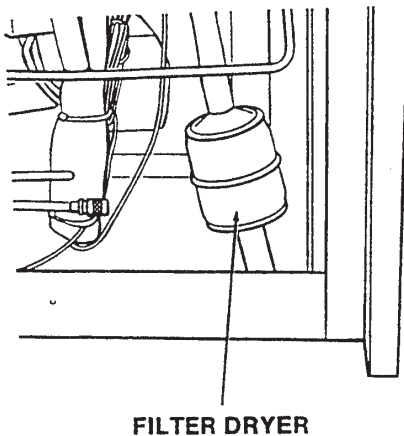

Figure 44. Filter Drier
- Replace filter drier using the appropriate brazing material (Figure 44).